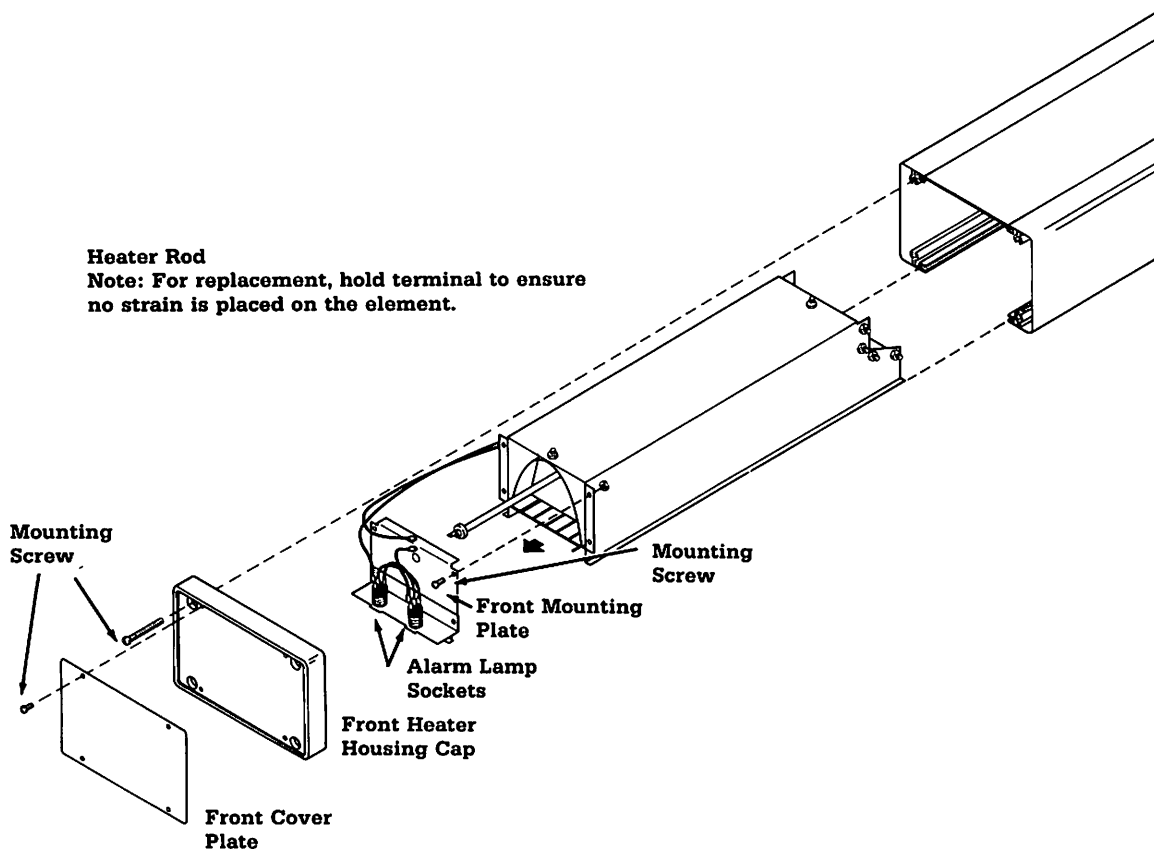

Figure 5-2. Heater/Lamp Housing Assembly
B. Heater Replacement (Figure 5-2)